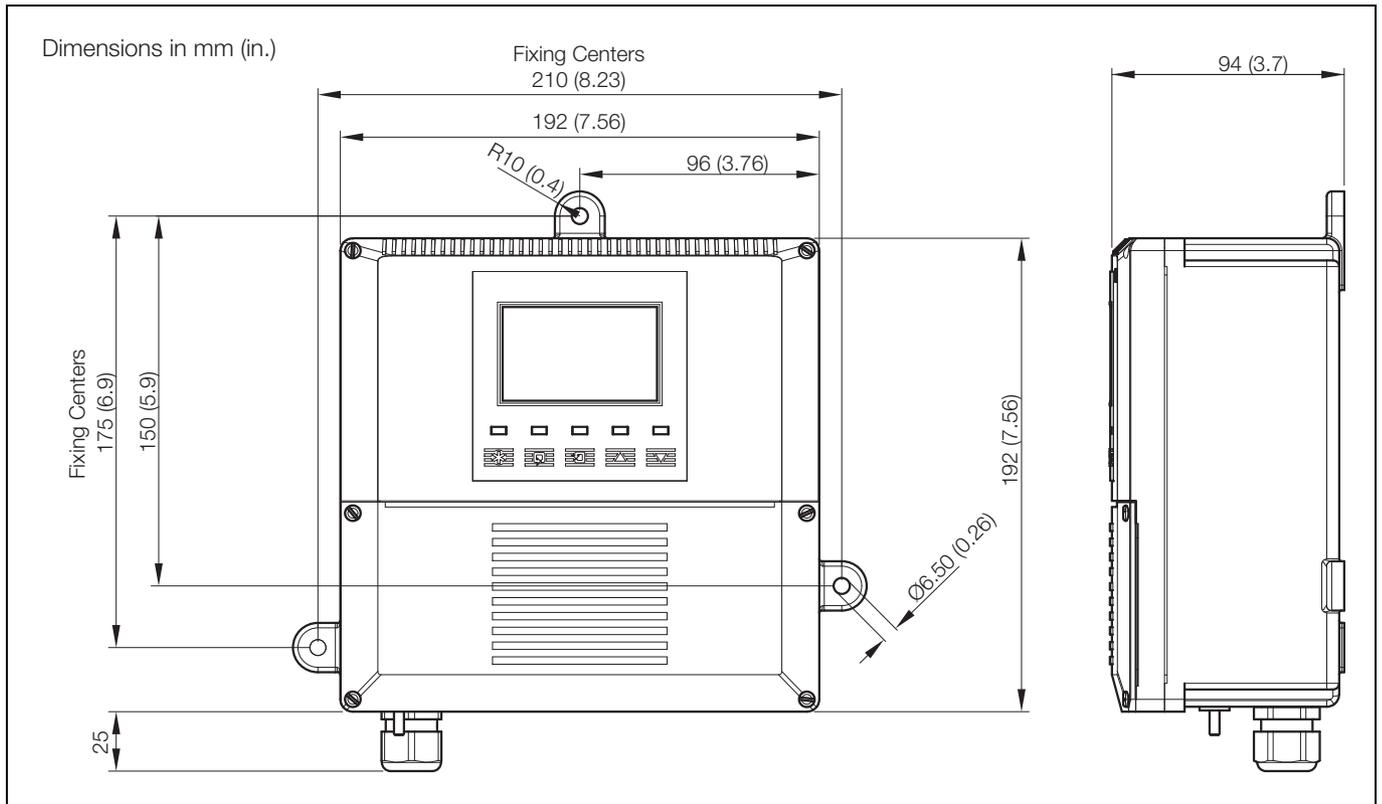

Fig. 6.2 Overall Dimensions
6.2.1 Wall-/Pipe-mount Analyzers – Figs. 6.2 and 6.3